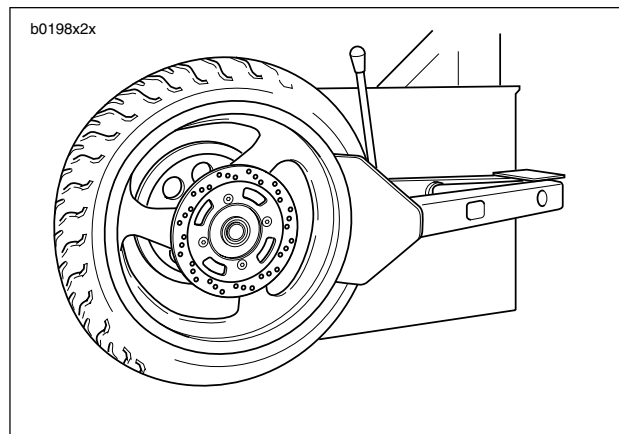

Figure 2-29. Loosening Beads from Rim Flange
3. See Figure 2-29. Loosen both tire beads from rim flange.